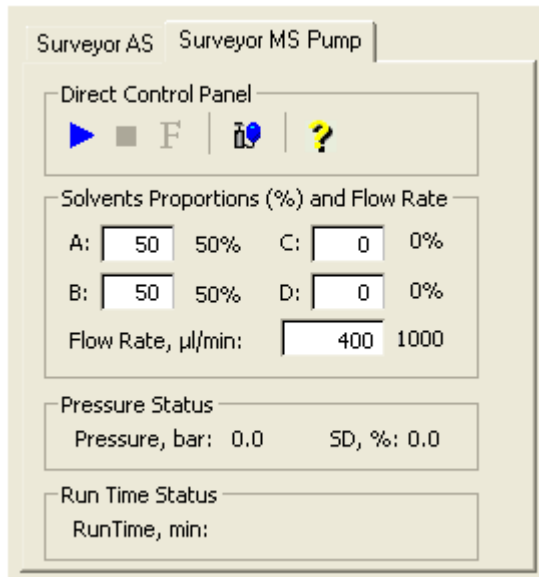

Figure 5-6. Inlet Direct Control view, showing pump Off
- a. On the Control / Scan Mode toolbar, click on the AS/LC Direct Control button to display the Inlet Direct Control view in the top right corner of the workspace. See Figure 5-6.